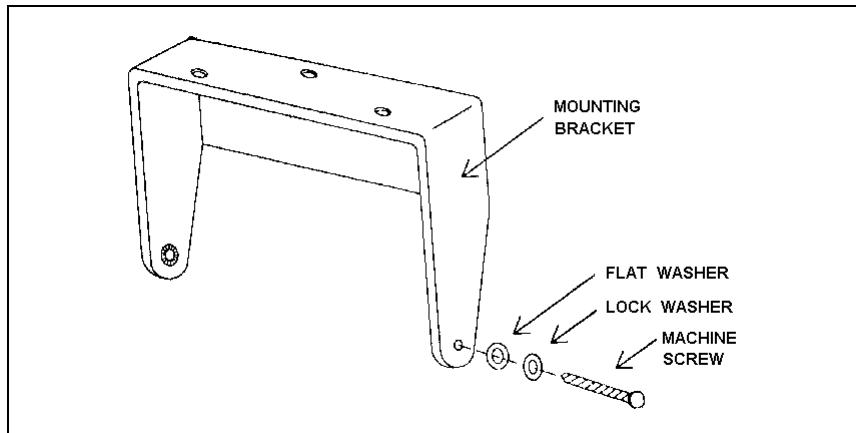

Figure 18 – Speaker Mounting Bracket
1. Use the mounting bracket as a template for locating the mounting holes and mount the speaker as shown in Figure 18.